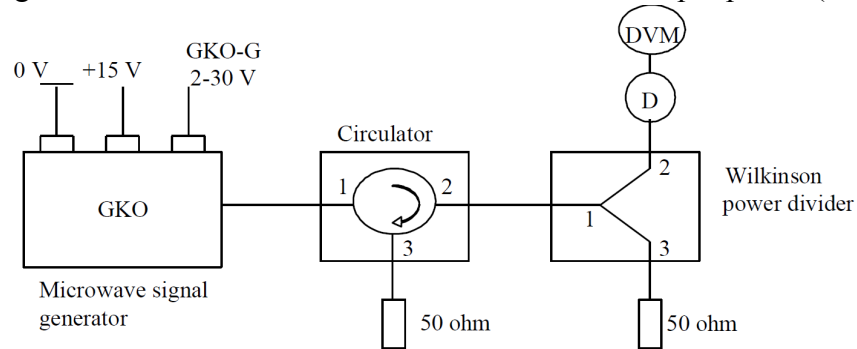

Figure 5: Power divider experimental setup.
**1.3** Set up the experimental apparatus as shown in Figure 5.